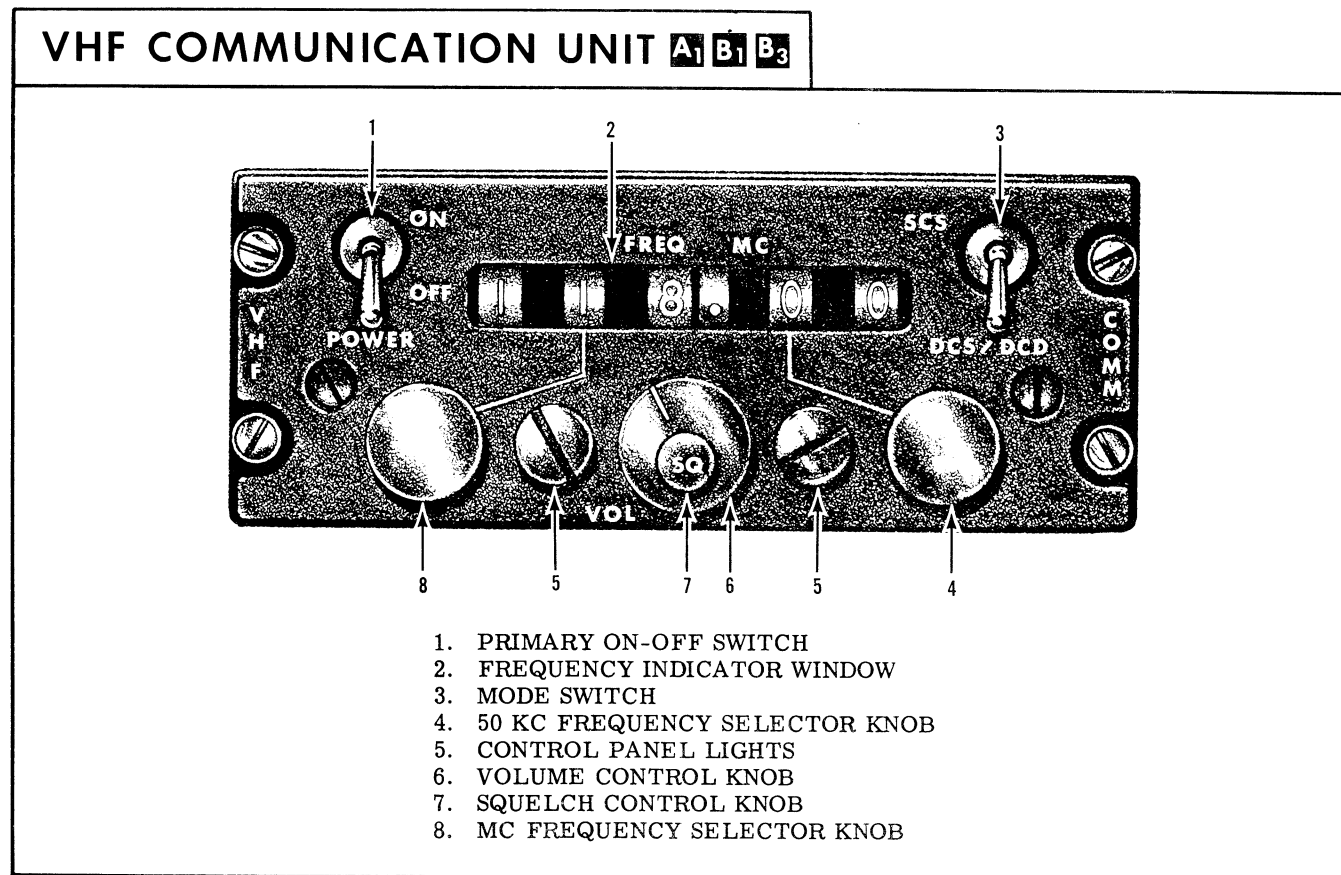

Figure 4-20.
The mode switch, labeled SCS-DCS/DCD (3, Figure 4-20), selects three different modes of operation which are described as follows:
Two frequency selector knobs (4, 8, Figure 4-20) provide a manual means of tuning the VHF equipment to the desired operating frequency as shown in the frequency indicator window (2, Figure 4-20). The left frequency selector knob sets up the megacycles of the desired frequency and the right frequency selector knob selects the hundredths of a megacycle or 50 kc.
A dual control is provided for the squelch and volume control. The squelch control knob (SQ) (7, Figure 4-20) is located in the center of the volume control and adjusts the squelch threshold on the receiver output. The volume control knob (VOL) (6, Figure 4-20) adjusts the receiver volume level in the inter-phone system.